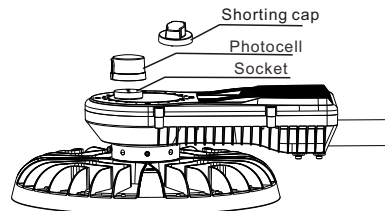

Figure 11
- When the photocell function is required, photocell should be installed on the back of lamp; When it's not required, shorting cap should be installed on the back of lamp Figure 11.